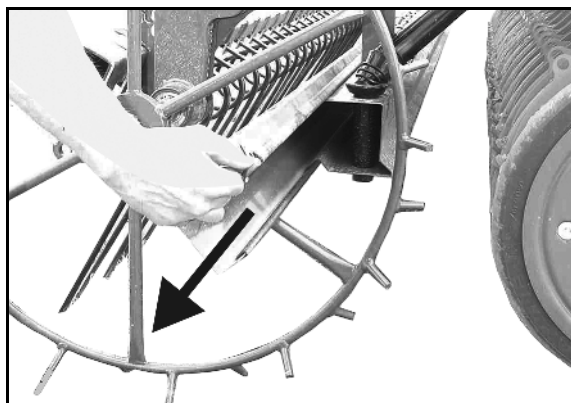

Fig. 35
- o Get the calibration crank and calibration trays into transport position. (Fig. 35 / Fig. 38).